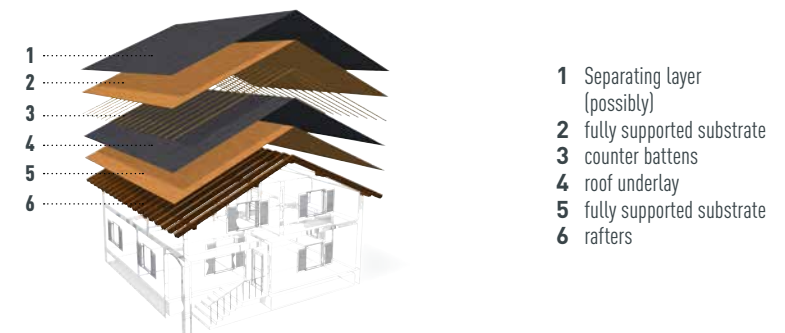

Figure 3 • Double-shell roof structure
1.1 ATTIC SPACE CONVERTED INTO LIVING SPACE (FIGURE 3)